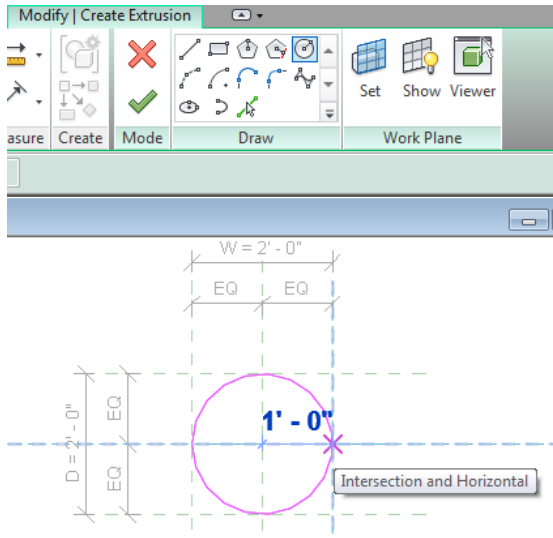

Figure 5—Draw a circle and snap it to the reference planes
7. Draw the circle centered on the reference planes in the file. Snap the size of the circle to the width and depth defined by the reference planes (see Figure 5).